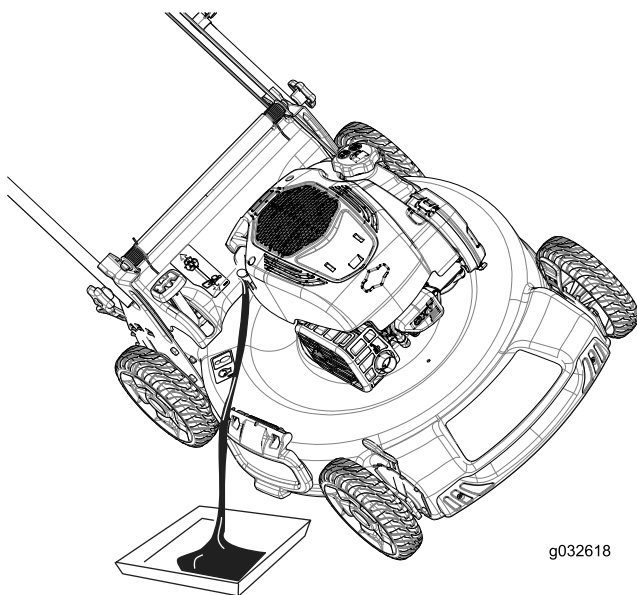

Figure 32
3. Tip the machine onto its side with the air filter up to drain the used oil out through the oil-fill tube (Figure 32).